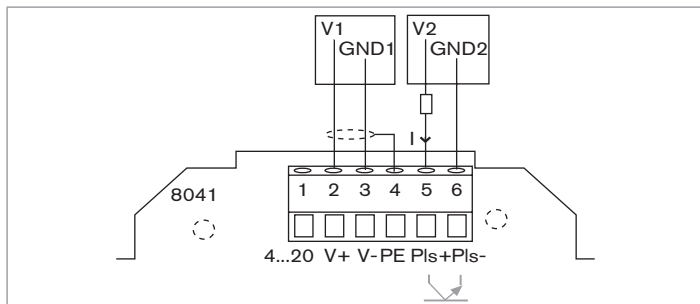

Fig. 21 : Frequency output connection to an electronic counter with its own power supply
- or to a charge such as an electronic counter with its own power supply (see Fig. 21) .